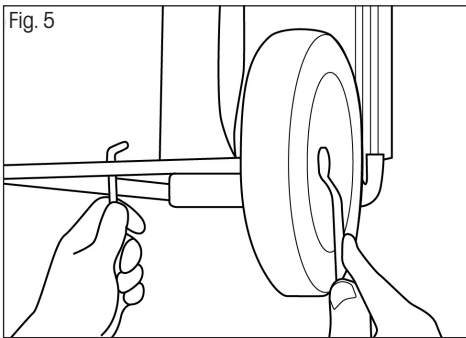

Fig. 5
- Insert a hex key through the opening in the wheel's axle and tighten the wheel nut. Fig 5.